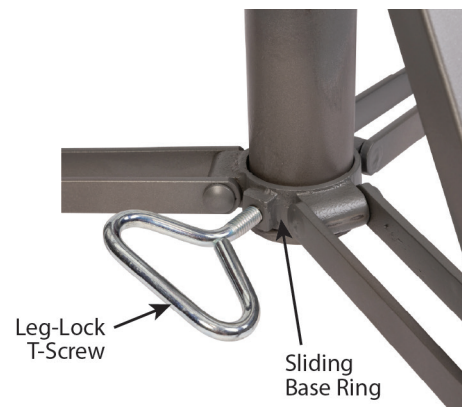

Figure 5-4: Attach Leg-Lock T-Screw
5. Insert leg-lock T-screw into sliding base ring and tighten against the base cylinder (see Figure 5-4).